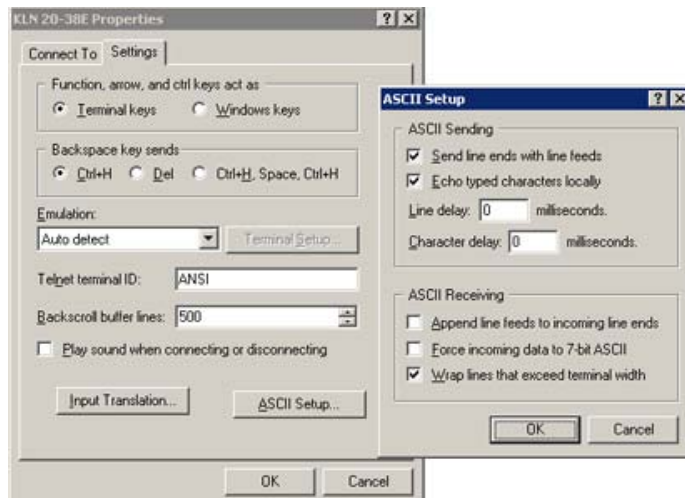

FIGURE 3-9. HYPER TERMINAL ASCII SETUP
- b. Click the Settings tab, then click ASCII setup (see Figure 3-9).